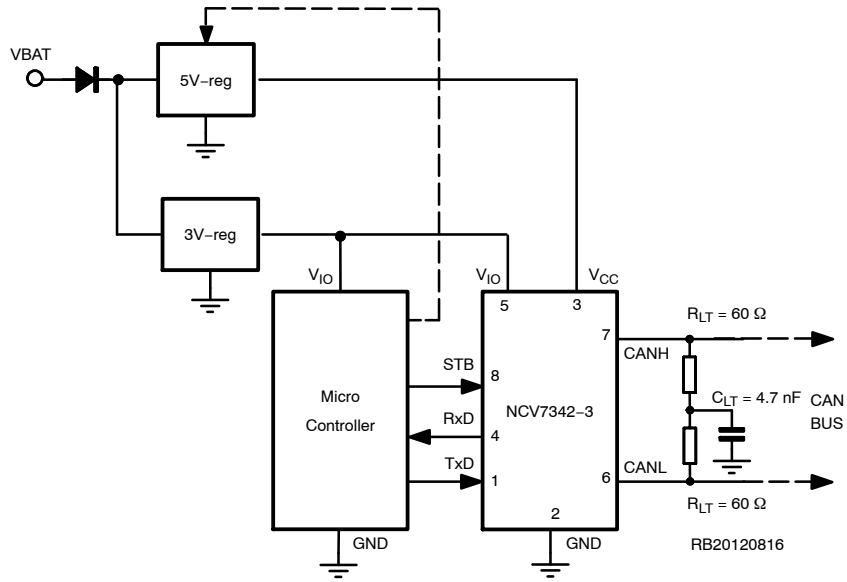

Figure 3. Application Diagram NCV7342-3
**NCV7342-3:** Pin 5 is  $V_{IO}$  pin, which is supply pin for transceiver digital inputs/output (supplying pins TxD, RxD, STB) The  $V_{IO}$  pin should be connected to microcontroller supply pin. By using  $V_{IO}$  supply pin shared with microcontroller, the I/O levels between microcontroller and transceiver are properly adjusted. This adjustment allows communication between 3 V microcontroller and the transceiver. (See Figure 3)
The  $V_{IO}$  pin (available only on NCV7342-3 version) should be connected to microcontroller supply pin. By using  $V_{IO}$  supply pin shared with microcontroller the I/O levels between microcontroller and transceiver are properly adjusted. See Figure 3. Pin  $V_{IO}$  also provides the internal supply voltage for low-power differential receiver of the transceiver. This allows detection of wake-up request even when there is no supply voltage on Pin  $V_{CC}$ .